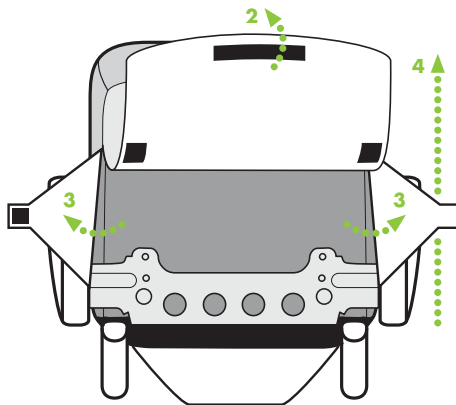

Figure 28
2. Pull up on the bottom flap and sides of the seat cover releasing the fastening strips. Flip the bottom flap forward so that it hangs in front of the seat, as shown in **Figure 28**.
3. Unfasten the triangular flaps and flip them sideways so that they hang off to the side of the seat, as shown in **Figure 28**.